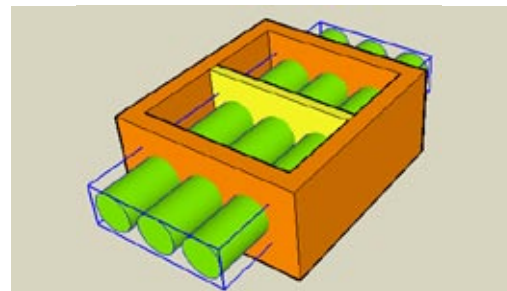

Figure 3-52
1. Start with a model that has interior and exterior walls with different colors or materials, and add a grouped cutting shape, as shown in Figure 3-52. You can create your model from scratch, or download my Intersect Selected model from the 3D Warehouse.